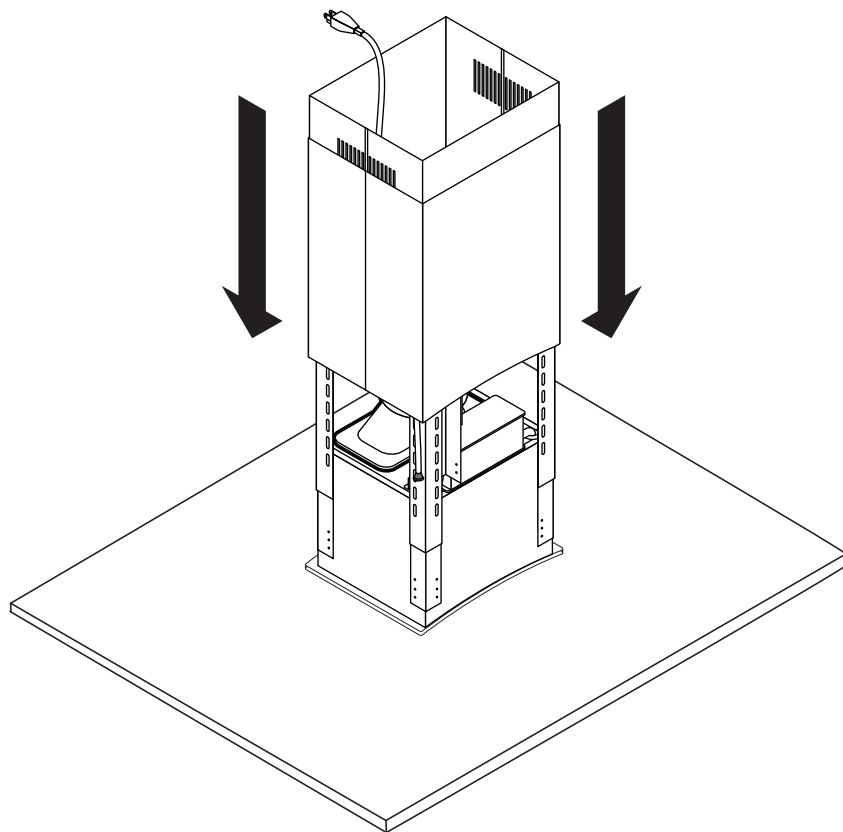

Figure 5
9. Slide the two chimneys above the range hood, as shown in Figure 5.